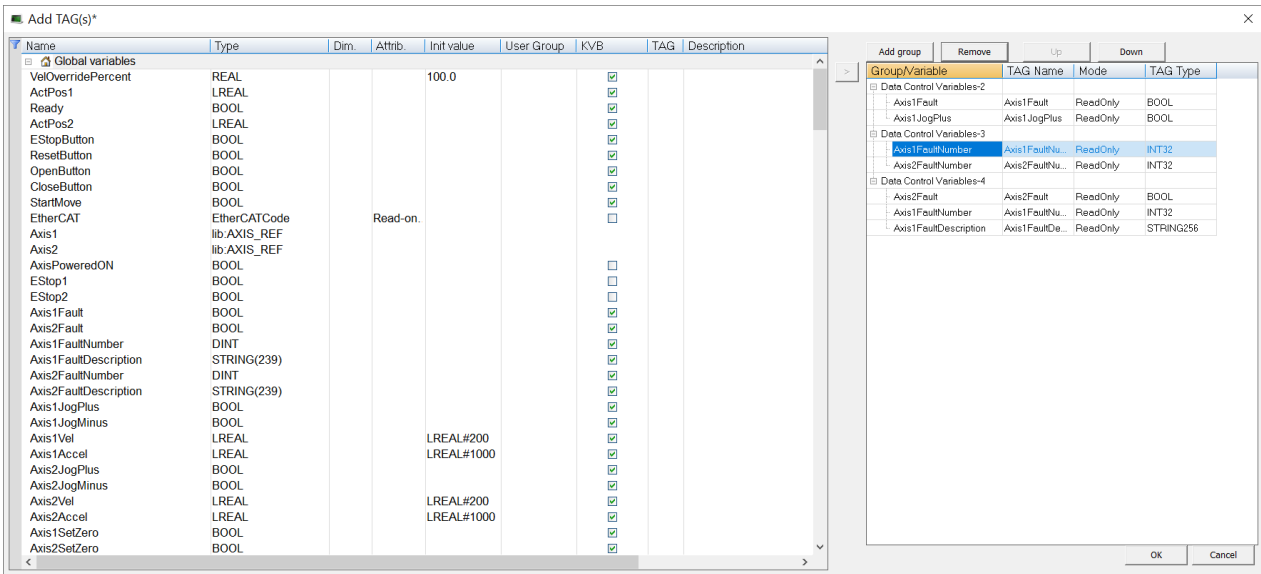

Figure 2-27: Removed variable
2. Click the **Remove** button to immediately delete the selected variable from the **Group/Variable** table. (Figure 2-27)